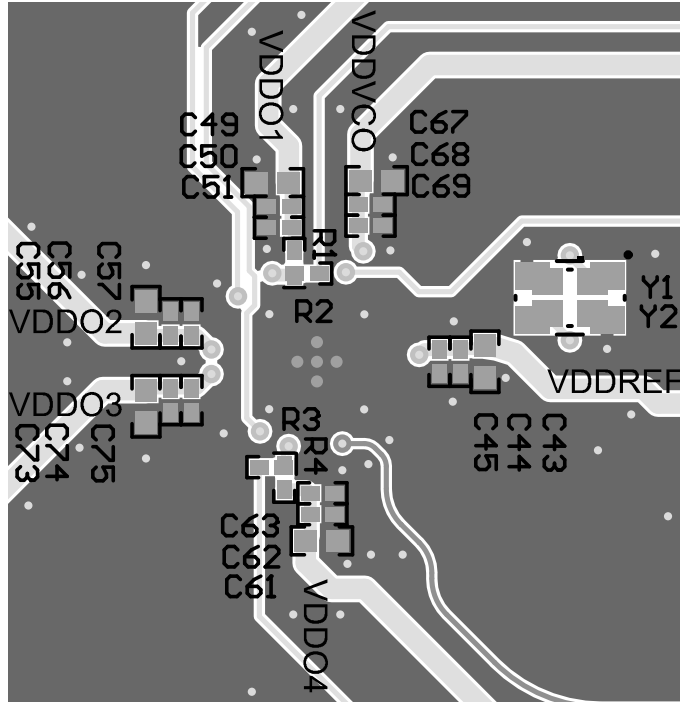

图 12-2. Layout Example, Bottom Layer
- Isolate the crystal area, connect the GND pads of the crystal package and flood the adjacent area. 图 12-2 shows a foot print which supports multiple crystal sizes.
- Place decoupling capacitors with small capacitance values very close to the supply pins. Try to place them very close on the same layer or directly on the backside layer. Larger values can be placed more far away. 图 12-2 shows three decoupling capacitors close to the device. Ferrite beads are recommended to isolate the different frequency domains and the VDD\_VCO domain.